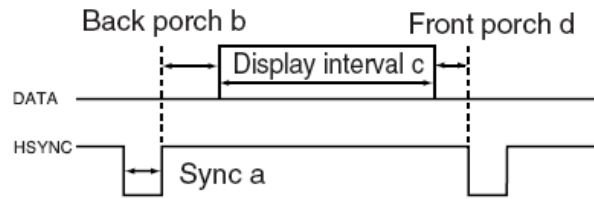

Figure 3.5 VGA Display Horizontal timing spec
- ✓ User can refer to Figure 3.5 for the basic VGA timing: